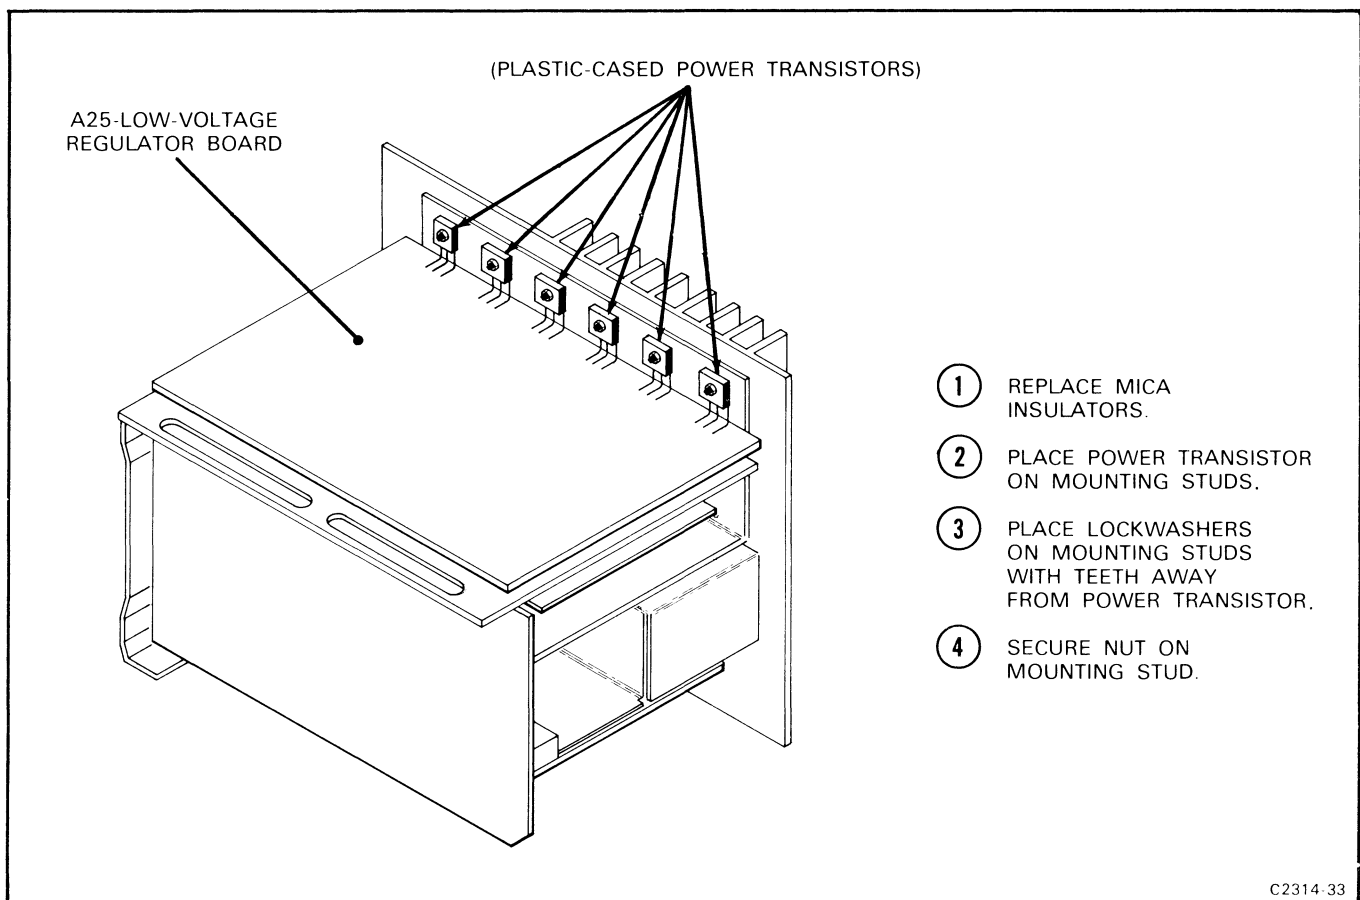

Figure 4-15. Correct placement of power transistors and their mounting hardware on rear heat sink.
5. Remove the hardware securing the plastic-cased power transistors to the rear heatsink (see Fig. 4-15). Note the position of the lockwashers so they can be correctly replaced.